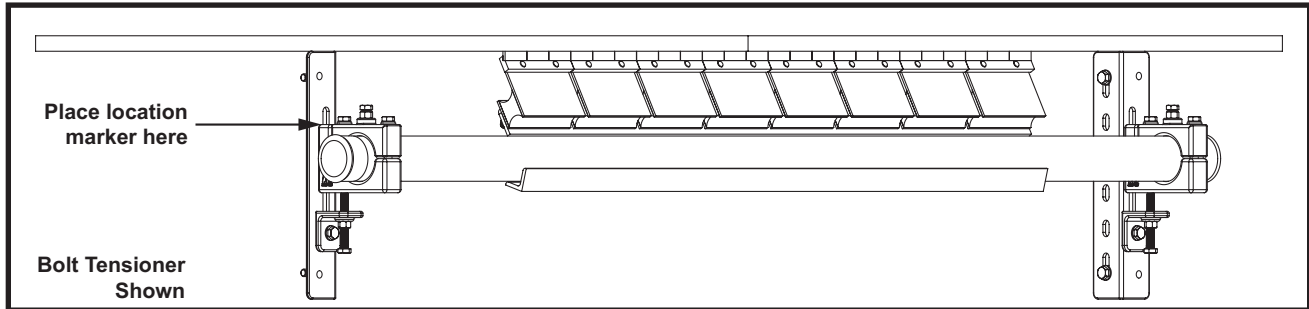

Figure 32. Martin® P2 Secondary Belt Cleaner HD Location Marker Location
- a. Place location marks on the mounting bracket and the clamp block for quick positioning after tip replacement. (Refer to Figure 32.)